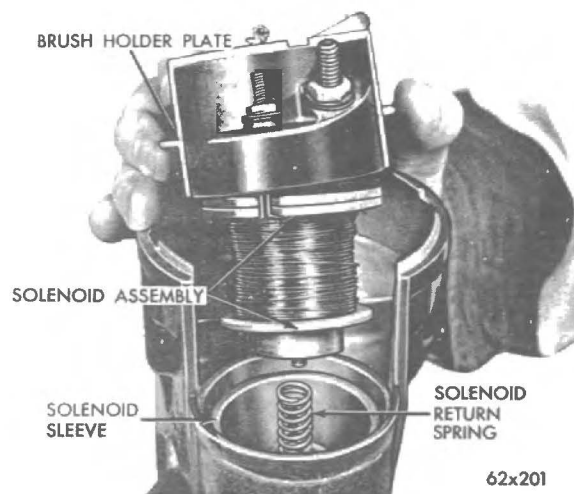

Fig. 7 Removing Brush Holder Plate
(8) Remove the brush holder plate with brushes and solenoid as an assembly (See Fig. 7).
(16) Remove the solenoid return spring from well or solenoid housing moving core (See Fig. 7).